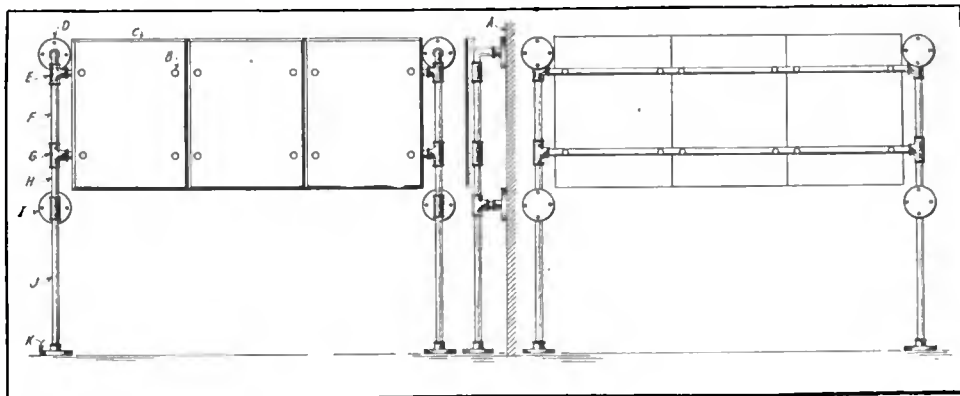

Figure 1—Second prize
**I**N the electrical laboratory or wireless operating room it is often desirable to have some form of a switchboard to facilitate the mounting and handling of experimental apparatus. Figure 1 shows the details of construction for a simple yet substantial board that can be easily built without machine work or special tools. The board may be of marble, slate, or any good insulating material such as bakelite. A large board should be made up of several sections or panels, as the small sections are easier to handle and mount, and are less liable to crack when boring the holes. The standards should be made of one iron pipe and standard pipe fitting.
The panels, C figure 1, are first bored to receive the bolts that hold it to the pipe standard. After this the holes for the various switches or instruments should be bored. In the event that marble is used, a steel drill should be employed and water allowed to drip on it constantly during the operation. This will prevent both the board and